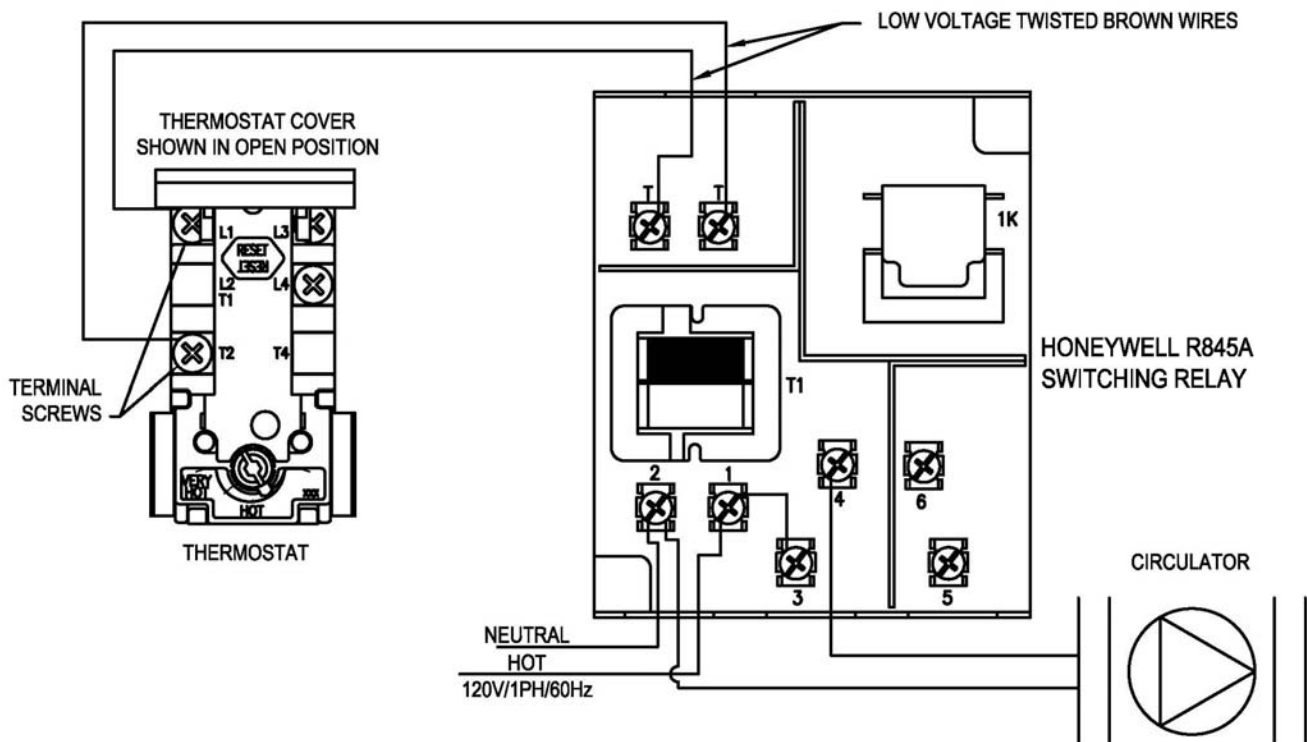

Figure 1 – Winter/Summer Kit Wiring Diagram
2. Remove the wire nut from the twisted brown wires and strip the wire ends leaving $\frac{3}{4}$ " of bare wire exposed. Grasp the bottom of the grey thermostat cover and lift to gain access to the screw terminals. Connect the wires to the thermostat as shown in Figure 1. Gently tug each wire to the side, verifying that they are firmly secured. Adjust the temperature setting if necessary. Lower the thermostat cover over the screw terminals and allow the insulation to come back down over the thermostat cover. Fasten the access cover back in place by inserting the bottom tab just inside the heater jacket and tipping up to secure the top to the outside of the jacket with the screw.
3. Remove the Honeywell RA845A switching relay from the box and inspect for damage. Remove the cover and secure the Honeywell RA845A switching relay to the jacket head. This Honeywell RA845A switching relay uses the thermostat contacts to open and close the hot 120 Vac leg going to the circulator. Feed the brown wires through the installed black rubber grommet and strip the ends leaving $\frac{3}{4}$ " of bare wire exposed. Connect the twisted brown wires to the "T" screw terminals in the Honeywell RA845A switching relay as shown in Figure 1. Connect the 120Vac line voltage to the Honeywell RA845A switching relay and circulator as shown in Figure 1. Apply the Honeywell RA845A switching relay cover and tighten in place.